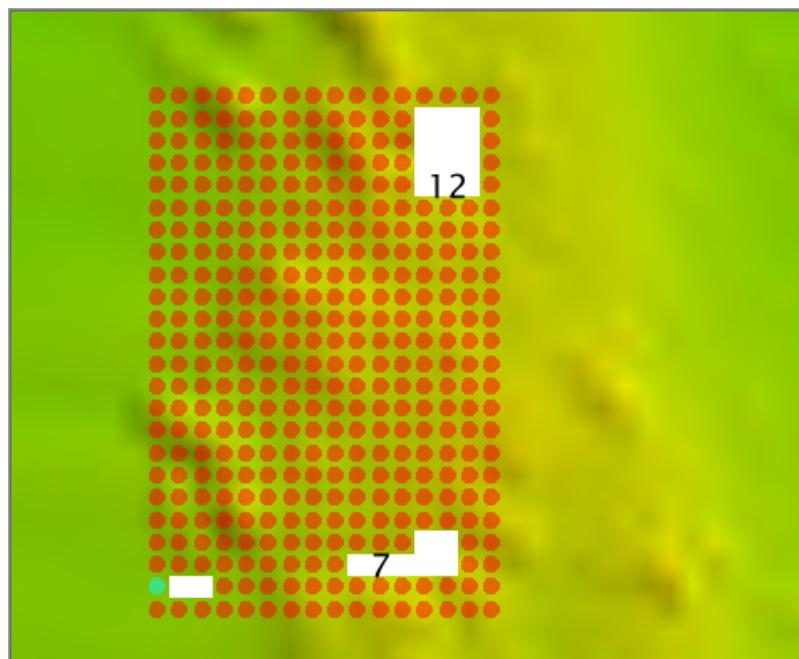

Fig. 2.22: Example for Object detection.
- In the example in (Fig. 2.22), Object Detection requirements identify the holes of 12 and 7 nodes, because each has 3 collinear, contiguous unpopulated nodes. The hole with 2 grids does not.